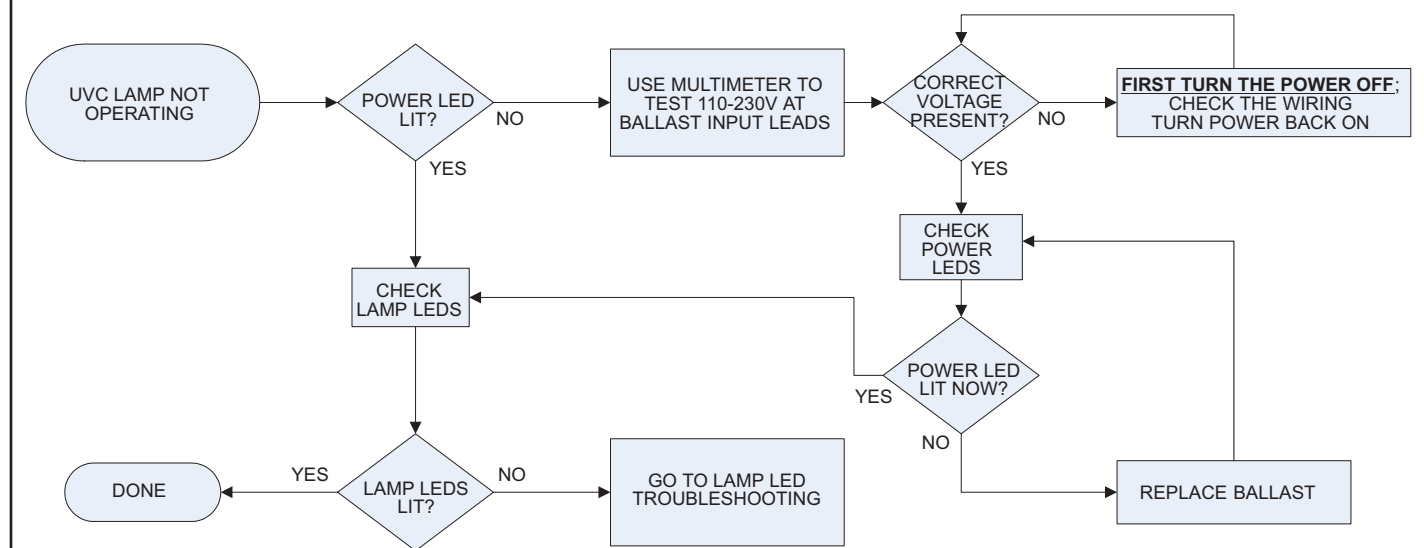
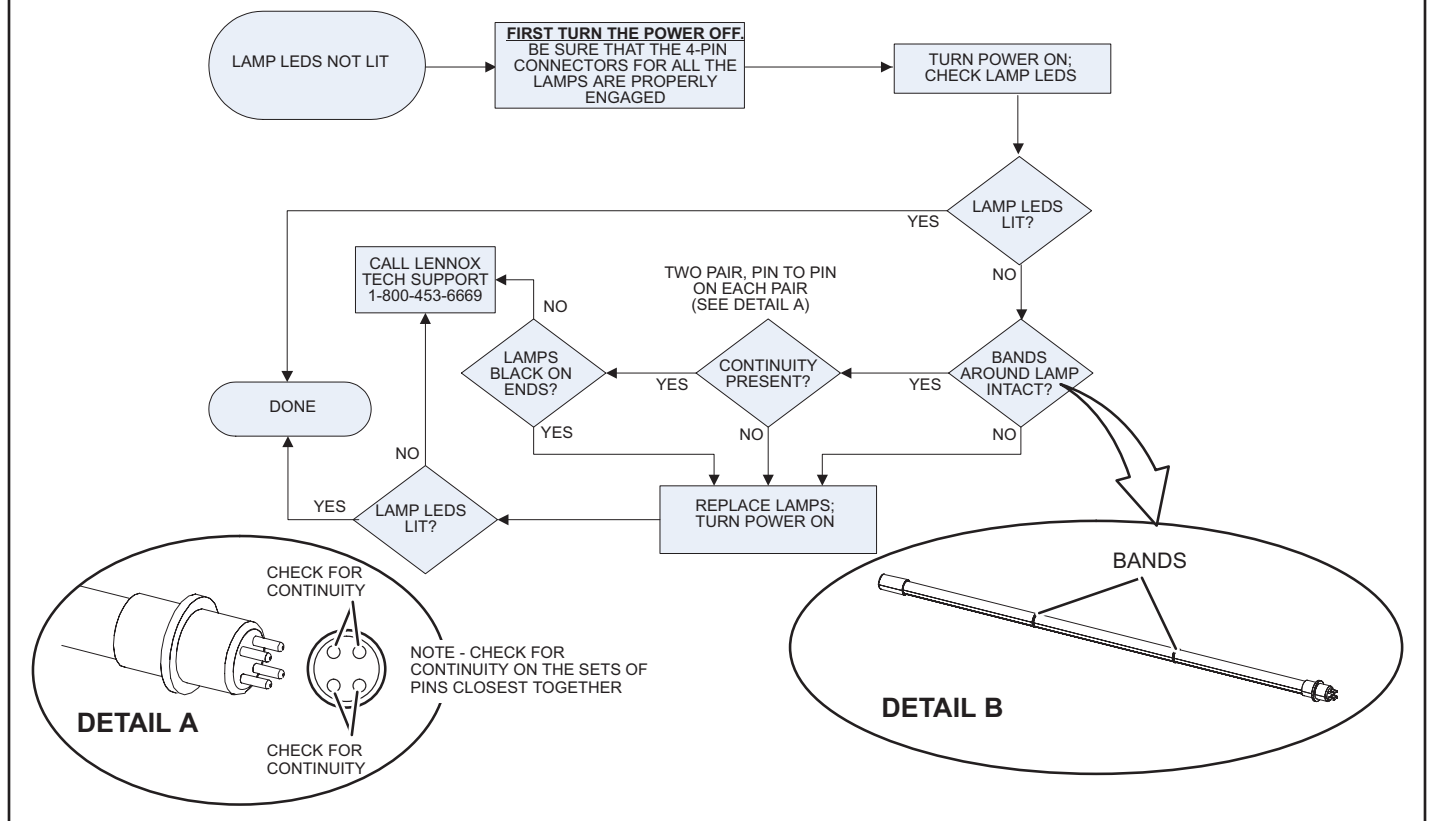

FIGURE 33
FIGURE 34
- 2 - Ohm-check across the lamp pins to check for continuity of lamp filaments (see FIGURE 34).
Troubleshooting charts are provided to aid in determining the cause of any problems encountered (FIGURE 33 and FIGURE 34).